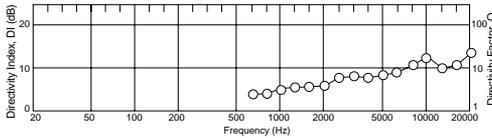

Figure 5. Plot directivity index (DI) and directivity factor (Q) of the H9500.
The directivity index (DI) of the H9500 horn is shown in Figure 5. The smoothly rising DI is a consequence of the gradual narrowing of the vertical dispersion angle above 2 kHz and contributes to the overall flatness of the high-frequency response of the system.